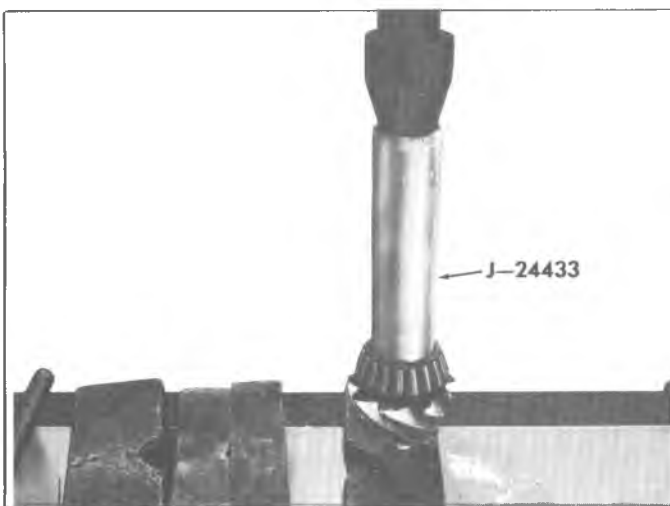

Fig. 13E—Installing Pinion Rear Bearing
2. Press pinion rear bearing onto drive pinion as shown in figure 13E, using J-24433.